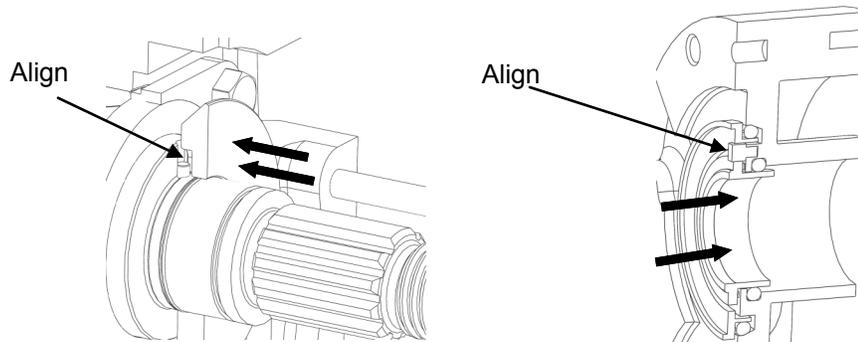

**Figure 34: Double Mechanical Seal Disassembly**
**Disassembly:** The double mechanical seal option consists of two mechanical seal sets (seal seat, inner and outer stationary seal), two wave springs and six o-rings (Figure 34). Remove the outer and inner seals from the back of the body and inspect them for chipping, scratches or any other evidence of cracks on the seal face. Remove the body o-rings using the tool provided by Q-Pumps (discard o-rings). Remove the seal seats (rotating seals) from shafts and inspect for damage (previously described). If any of the seals are damaged, do not re-use them. Remove shaft o-rings and discard them.